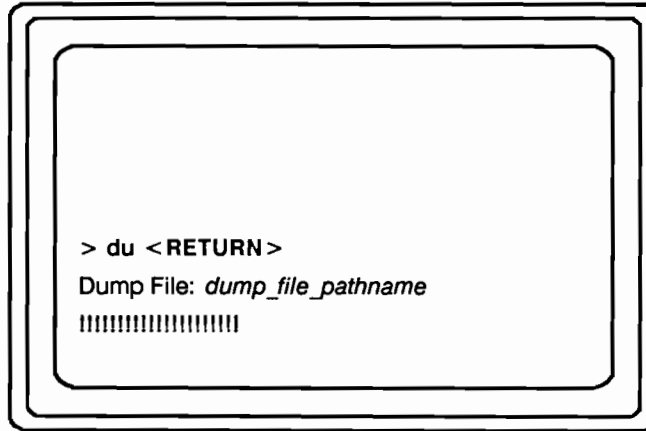

Figure 8-20. Starting the Memory Dump to a Cartridge Tape
4. Start the memory dump by typing the command shown in Figure 8-20.